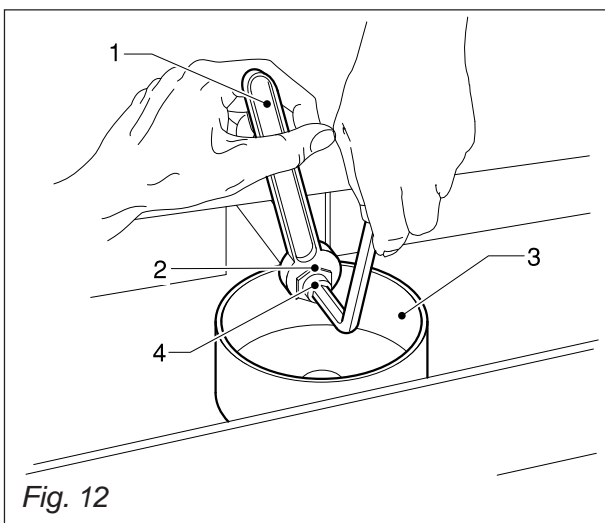

Fig. 12
- Check and clean the drainage sump 3 (Fig.12), removing any sludge with the help of a spoon.
- Using a spanner firmly hold 1 the outlet pipe 2 Fig.12 situated about the drainage sump while loosening the hexagonal sealing screw 4 by 3 turns at the most.